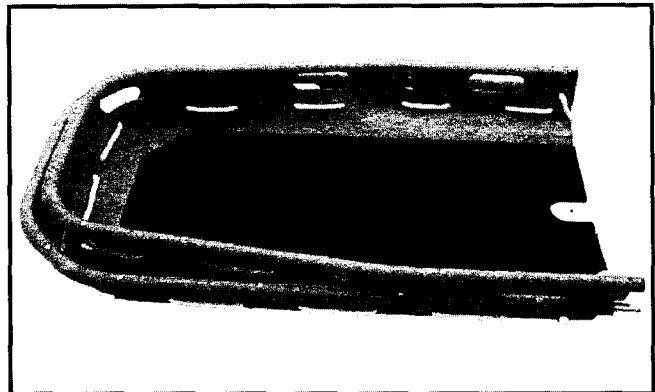

Figure 1 - Nested Stretcher Halves
The Models 71-S and 71-SS are two-piece stretchers. The head- and foot-end halves can be separated and nested for storage or for backpacking to a rescue scene (Figure 1).
3. Nest the foot-end half of the stretcher inside the head-end half (Figure 1).